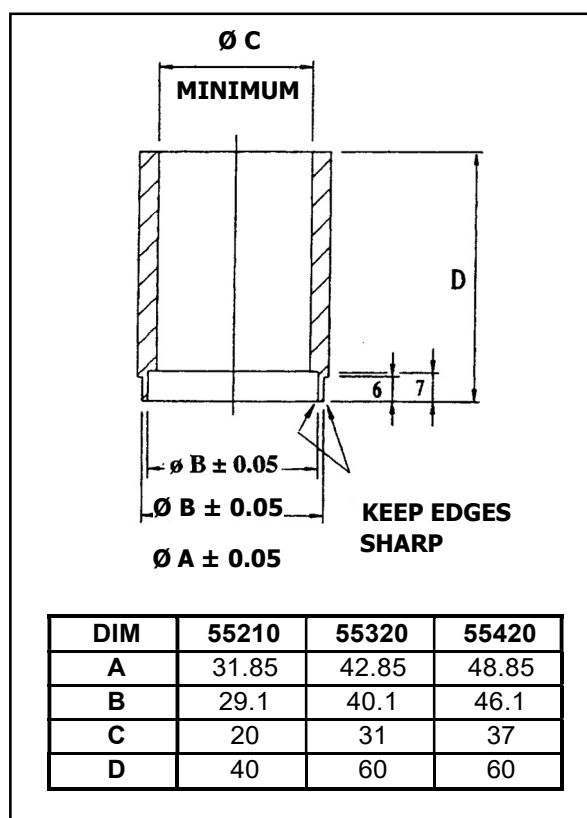

Figure 14
- a) Carefully remove the static seal seats (56) from their bores in the rotor case (38). Take great care not to scratch or damage the smooth face of the seal. Keep each seal with its respective shaft to ensure correct mating of the seal faces on re-assembly.
- b) The joint ring (50) may come out with the seal face. If not, then remove it from the rotor case bore and keep it together with the seal face. You may wish to label the components. The 55210 size pump has a wave spring which can also be removed at this time.
- c) Only remove the rotary seal seat (56) from the back of the rotor (40) if you intend to fit a new seal or cup rubber (49).
d) Make up or purchase a sleeve (90) as Figure 14. Press ring down onto cup rubber to force out seat. Do not try to prise out the seat with screwdrivers or similar tools. **Seat materials are brittle.** If seal seat is to be fitted later, note which way up it was fitted - seats are not reversible.